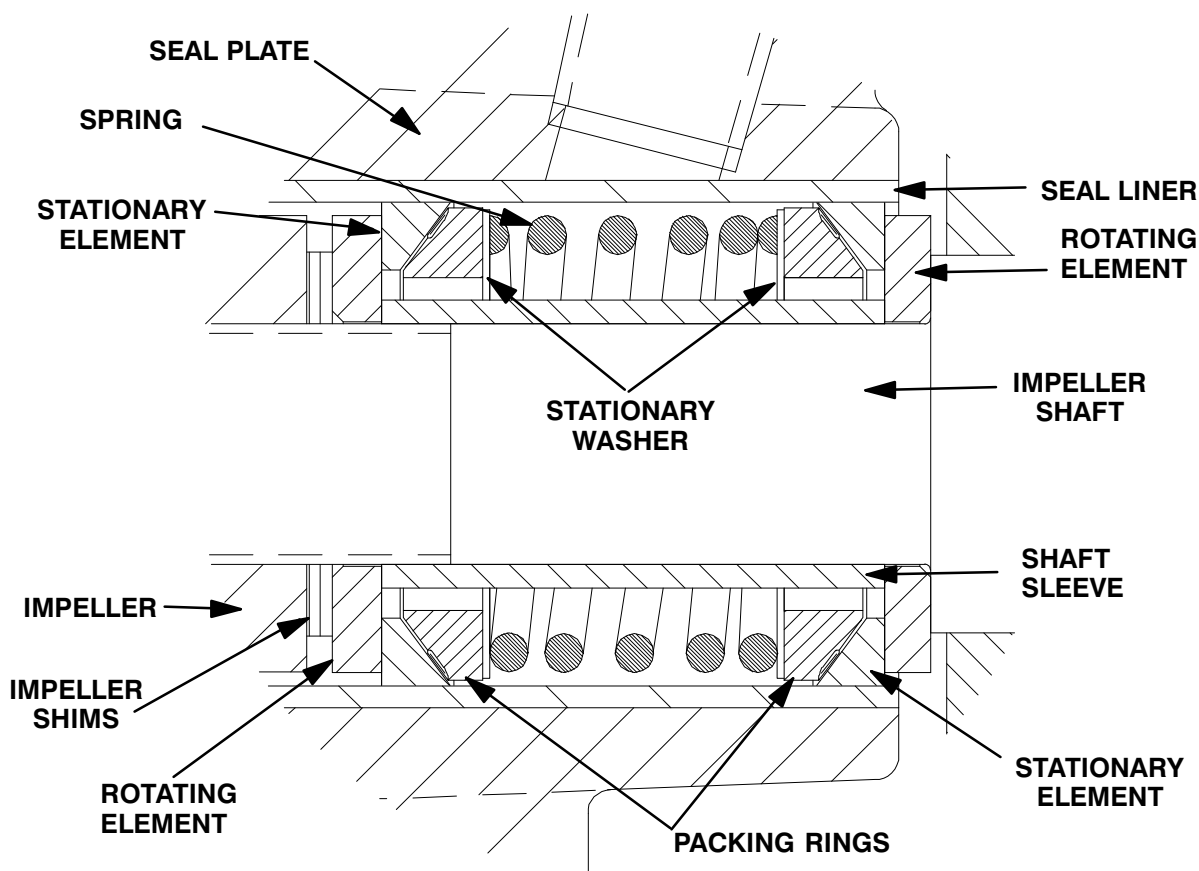

Figure 3. Seal Assembly
To ease installation of the seal, lubricate the seal liner (18) with water or a very **small** amount of oil, and apply a drop of light lubricating oil on the finished faces. Assemble the seal as follows, (see Figure 3).